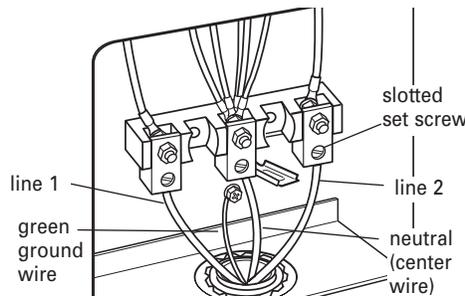

Figure 2
11. Connect the bare ground wire to the range using the ground-link screw and cup washer. The ground wire must be attached first and must not contact any other terminal. See Figure 2.
12. Loosen (do not remove) the 3 slotted set screws. Insert the neutral (white) wire into the hole at the bottom of the center position lug (attached to center terminal screw black terminal block). See Figure 2. Connect the other two wires (line 1 and 2) to the outer aluminum lugs. Securely tighten the set screws. For 8 gauge copper wire, tighten to 25 in/lbs of torque, and for
6 gauge aluminum wire, tighten to 35 in/lbs of torque to make a proper electrical connection. See Figure 2.